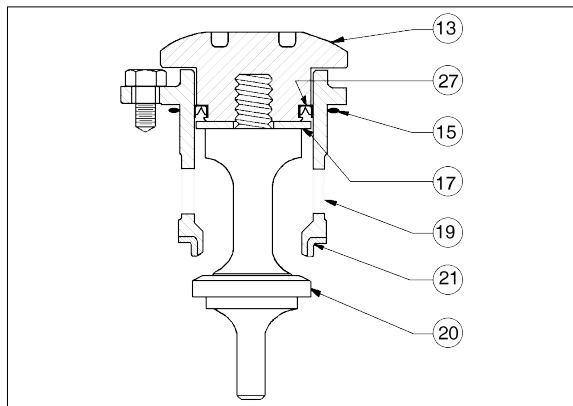

Figure 3: Assembled ITA,
- e. Remove wiper seal (16), if supplied, from within cage (19).
- f. Remove wiper washer (17.1) or camber adjusting washer (17.2), if supplied, from within cage (19).
- g. Remove o-ring lower stem seal (14.3) from plug (20).
- h. Remove seat ring (21); examine for signs of leakage. If seat ring (21) shows signs of significant leakage, determine if operating conditions of pressure, pressure drop, or temperature are exceeding limits.
2. Units with Metal Diaphragm(s) (See Fig 3):
- a. To disassemble the ITA, hold the lower part of the valve plug (20) in a bench vise; do not hold on the machined surface in the plug's (20) spindle area. (The spindle "slides" in the pressed-in-place lower guide bushing (24) and can not be allowed to be marred.)
- b. Using a special double-posted spanner wrench fitting (to order see NOTE in Section X, Parts Ordering Information), turn the piston-guide bearing (13) CCW to loosen; piston-guide bearing (13) can be removed by hand after loosening.
- c. Pull the valve plug (20) downwards out of the piston-guide bearing (13) and out thru the bottom of the cage (19).
- d. Remove the piston-guide bearing (13) from the upper end of cage (19).
2. Position piston-guide bearing (13) over and into upper end of cage (19) until the cap seal (27.1) edge touches the upper lip of the cage (19). While gently applying force to press the piston-guide bearing (13) into the cage (19), simultaneously use fingers to lightly press the u-cup seal (27.3) inwards into the groove of the piston-guide bearing (13) until the u-cup seal (27.3) "slips into" the cage (19). DO NOT USE TOOLS, LUBRICANT, OR HEAVY FORCE TO ENGAGE THE U-CUP SEAL (27.3) INTO THE CAGE (19).
4. Place properly oriented seat ring (21) onto its shoulder at the lower end of cage (19).
- a. Place new o-ring lower stem seal (14.3) into groove of valve plug (20).
- b. Insert valve plug (20) upwards through lower end of cage (19) and through the center hole in piston-guide bearing (13), also capturing the camber adjusting washer (17.2) or wiper washer (17.1) and wiper seal (16), if supplied. Hold plug (20) and cage (19) together.
- c. Place an oversized nut or stack of washers, the same approximate height of the upper diaphragm pressure plate (8) and the lower diaphragm pusher plate (10), over the upper end of valve plug (20) and temporarily secure with diaphragm lock nut (7), manually tightened. Do **NOT** allow valve plug (20) to rotate against seat ring (21) during tightening.
- a. Insert valve plug (20) upwards through lower end of cage (19) and through the center hole of camber adjusting washer (17.2) or wiper washer (17.1) and wiper seal (16).
- b. Engage valve plug (20) with piston-guide bearing (13) threads and tighten manually as far as possible.
- c. Place ITA into a vise with leaded jaws and grasp at a hub location on the valve plug (20) that is not in the "spindle" zone. (See Figure 3.)
- d. Using a special double-posted spanner wrench fitting (to order see NOTE in Section X, Parts Ordering Information), tighten piston-guide bearing (13) to the valve plug (20) with the following torque values. Do **NOT** allow valve plug (20) to rotate against seat ring (21) during tightening.
1. Place body (23) in a vise.
2. Reinstall internal sensing drilled plug (32) with compatible thread sealant.
3. Insert the lower piston spring (22) into the body (23), if supplied.
4. Fit the o-ring cage seal (15) into its body (23) groove.
5. With the ITA held manually in the closed position, insert ITA into body (23).
6. Properly align all three cage bolt (18) holes as there is only one circumferential location possible for this alignment. If a lower piston spring (22) is used, apply downward force to the top of the cage (19) until the ITA is lowered sufficiently to engage the cage bolts (18) into the body (23). Engage all of the cage bolts (18), then evenly screw in the cage bolts in one-half revolution increments to pull down the ITA evenly, taking care NOT TO "ANGLE" the ITA in the BODY. Torque the cage bolts (18) to 13-15 ft-lbs (17.6-20.3 N-m).